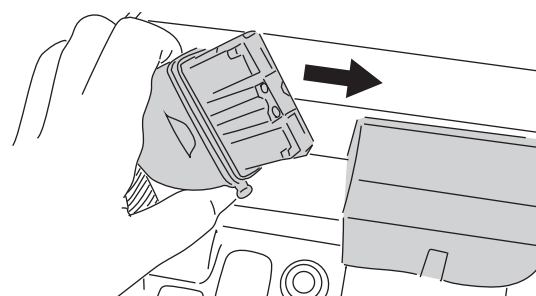

Fig.6
Connect the power cable to the battery connector of the Battery Pack.(Fig.6)
1. Remove the power cable from the Battery Pack.(Fig.6)